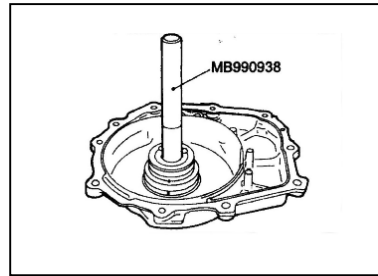

Fig.11A-95
- (41) Install output shaft bearing. See Fig.11A-95.
- (42) Install four seal rings.
- (43) Install the thinnest thrust race #8, then install the rear cover.